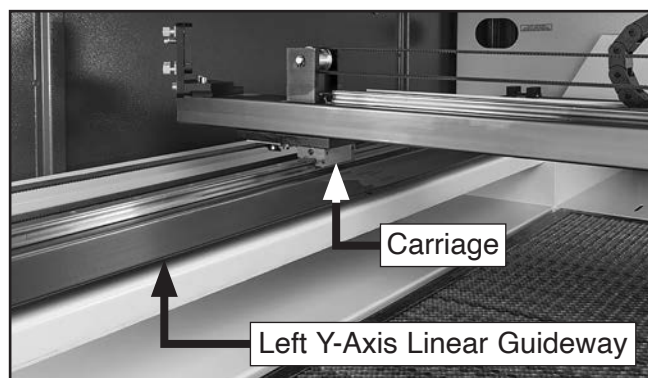

Figure 61. Left Y-axis linear guideway and carriage.
8. Repeat **Steps 3–7** on left and right Y-axis linear guideways and carriages (see **Figures 61–62**).